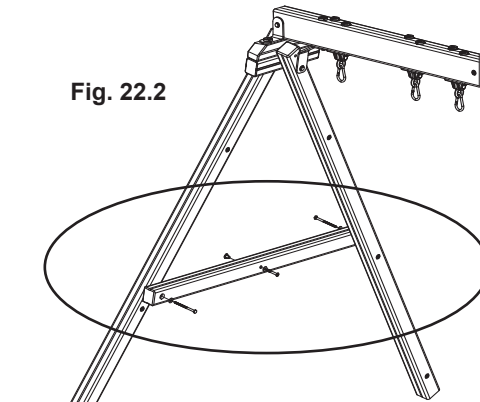
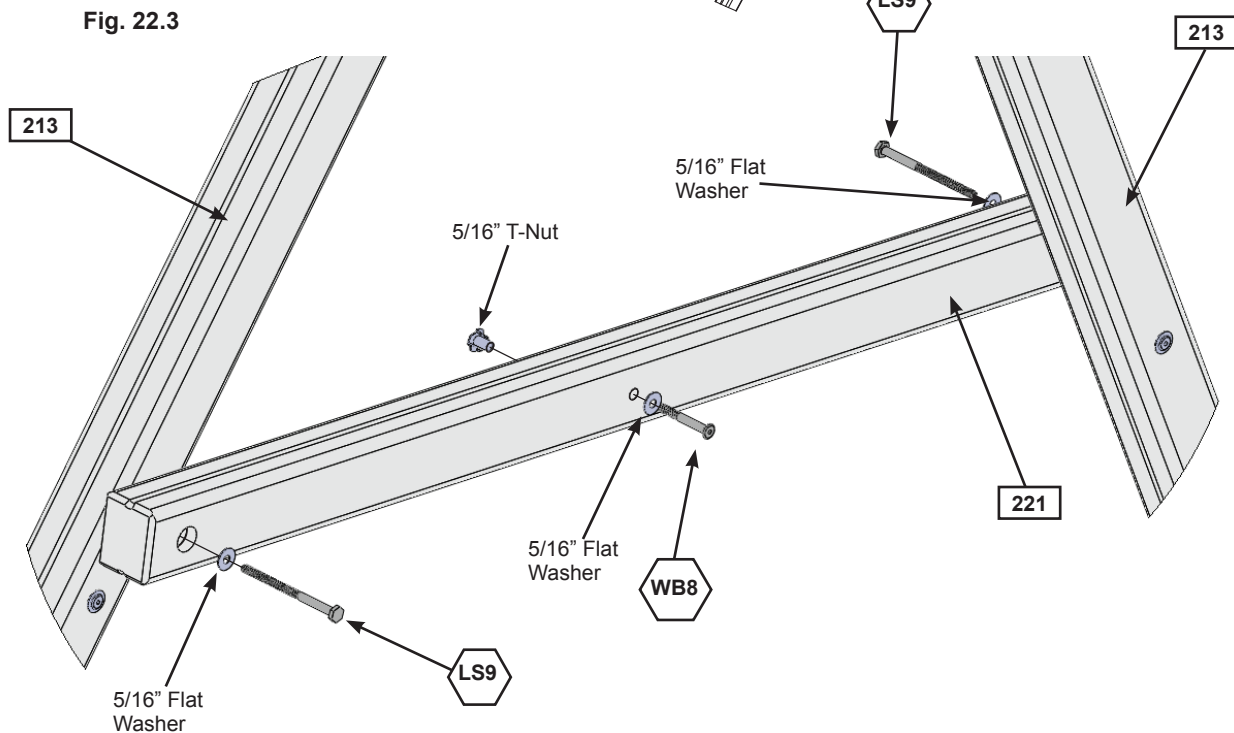

Fig. 22.2
Fig. 22.3
B: Place (221) Support Cross between (213) SW Posts at the previously determined spot and fasten with 1 (LS9) 5/16 x 4-3/4" Lag Screw (with flat washer) per side. (fig. 22.2 and 22.3) **Notice one side is fastened on the outside and one on the inside. It is important that each side is positioned exactly the same as the diagram. (fig. 22.3) Tighten the lag screw when you are sure (221) Support Cross is level.**
C: Attach 1 (WB8) 5/16 x 2-3/8" Wafer Bolt (with flat washer and t-nut) to (221) Support Cross through the middle hole. (fig. 22.2 and 22.3) **IMPORTANT! MAKE SURE THE BOLT IS ATTACHED TO MINIMIZE CHECKING OF WOOD.**